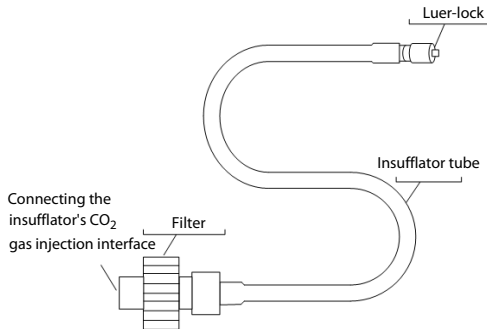

Figure 4-7 Installed insufflator pipe fitting (using filter)
2. Please install the filter between the insufflator tube and the insufflator's CO₂ gas injection interface. As shown in Figure 4-7.